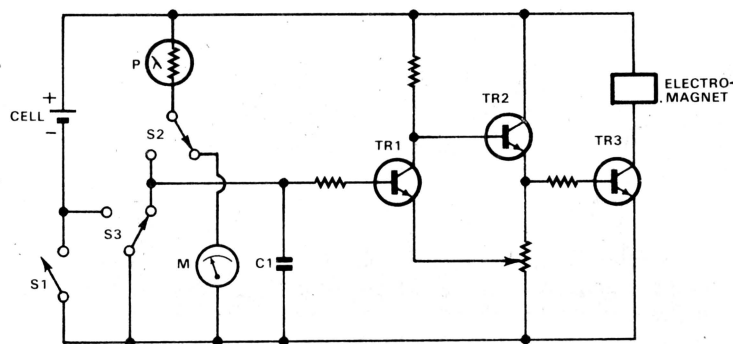

FIG. 1
**Circuits:** One of the most commonly employed circuits in the relatively more economical cameras is a Schmitt trigger circuit. An example is the circuit used in the automatic Viteasa 500AE camera, for an exposure time range of 1/500 to 10 seconds; this circuit is shown in Fig. 1.